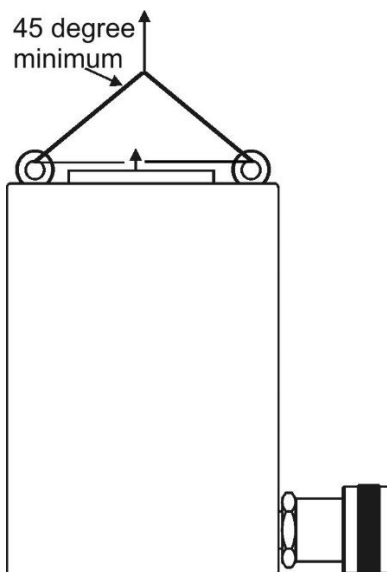

Figure 1 – Hoisting Cylinder
- ⚠ WARNING:** When hoisting the cylinder, use **all** of the eye bolts. Failure to do so could cause the cylinder to drop unexpectedly. Lifting straps must be at a 45 degree or greater angle from horizontal. See Figure 1 (below)